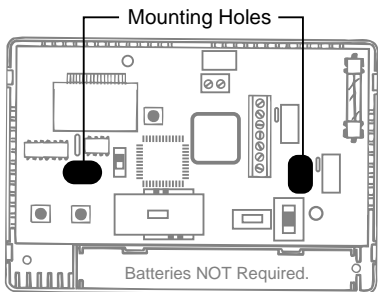

Figure 3
6. Mark placement of mounting holes (Figure 3).